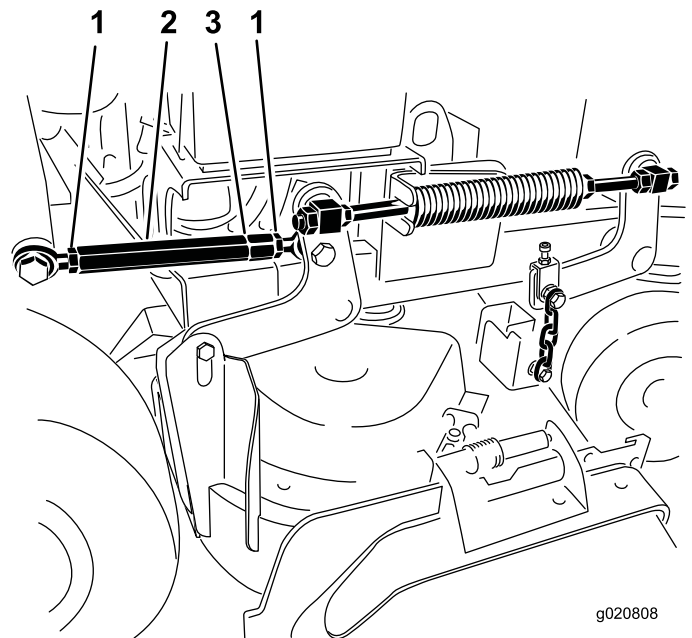

Figure 86
5. Loosen the jam nuts at both ends of the turnbuckle (Figure 86).
- Note:** The end of the turnbuckle with the groove machined in it, has left hand threads (Figure 86).